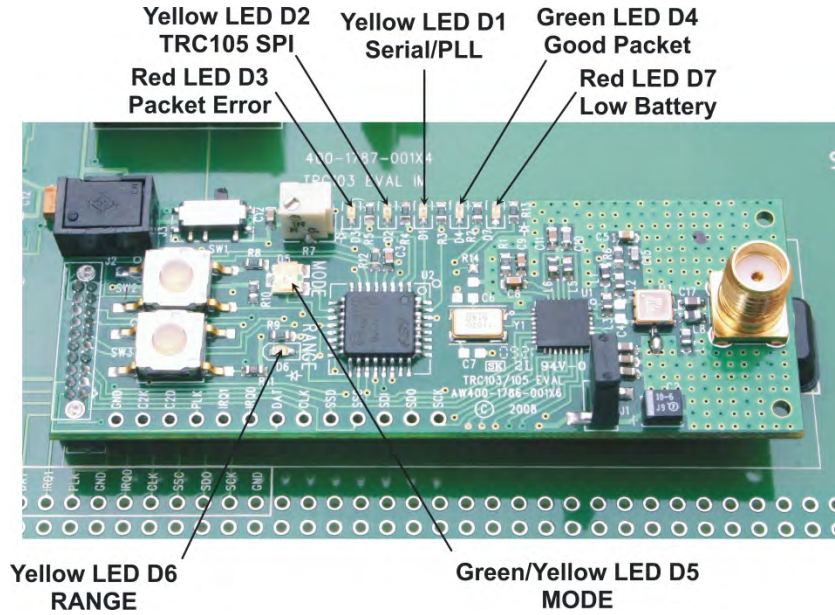

Figure 10 - DR-TRC103 Radio Board LED Indicators
5. If the radios are receiving good packets, then the green Good Packet LEDs will be flashing alternately on each board (plus various yellow LEDs). Figure 10 details the locations of the LEDs.
The DR-TRC103 radio board LED indicator names and locations are shown in Figure 10. Table 2 summarizes the functions of the DR-TRC103 radio board connectors, user controls and LED indicators.